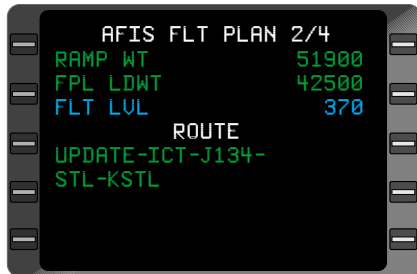

Figure 7-48
**NOTE:** If Automatic Fuel Flow is interfaced to the GNS-XLs, **RAMP WT** changes to **GROSS WT** after the engines are started and the **GROSS WT** value field decreases on a periodic basis as the GNS-XLs recalculates. (Figure 7-48)